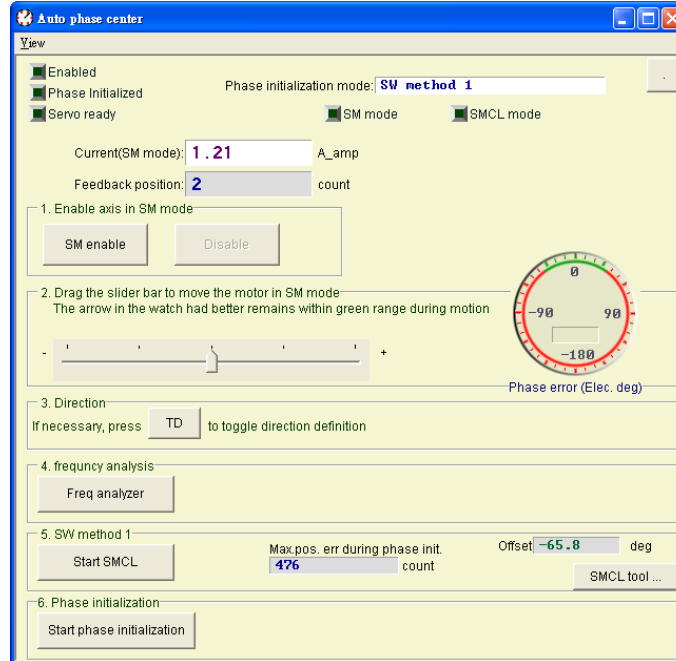
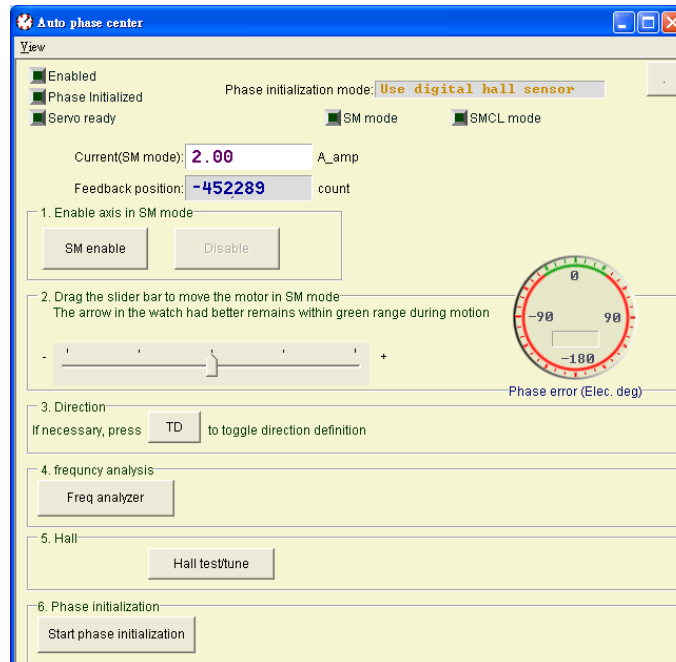

Figure 4-27 Auto phase center without hall sensor
Figure 4-28 Auto phase center with hall sensor
Click the icon  on the tool bar of the main window or select Auto phase center item under pop-up menu Conf/Tune to open auto phase center. Normally Auto phase center for phase initialization looks like Figure 4-27. However when a digital hall sensor is used, it look like Figure 4-28.
4.3.2.4 If the hall sensor is not used, please go to 4.3.2.5. In Figure 4-28 step 4, click the Hall test/tune button to tune hall sensor signal while using hall sensor.